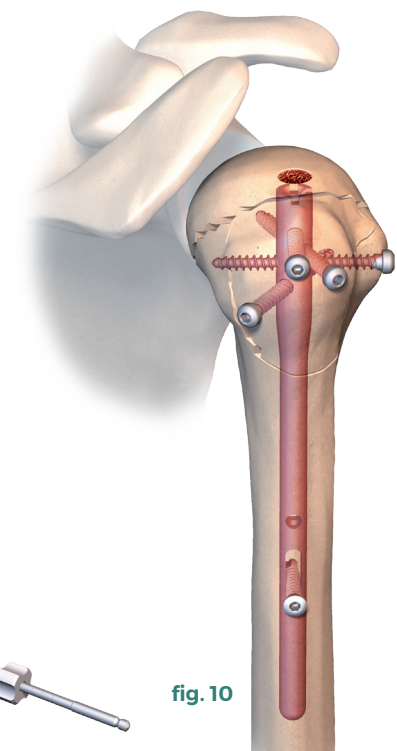

fig. 10
- Remove the blunt tip drill guide sleeve (**ref. 270 822**) and fit the distal screw using the 2.5 screwdriver (**ref. 233 339**) (**fig.10**).